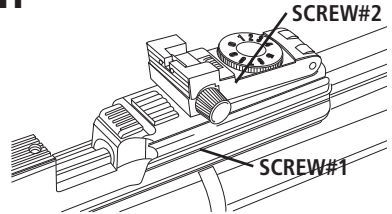

Fig. 3
- If the shot is left of the target, turn the **SCREW#1** clockwise. (Fig.3)
- If the shot is right of the target, turn the **SCREW#1** counter-clockwise. (Fig.3)
- If the shot is too high, turn **SCREW#2** clockwise. (Fig.3)
- If the shot is too low, turn **SCREW#2** screw counter-clockwise. (Fig.3)